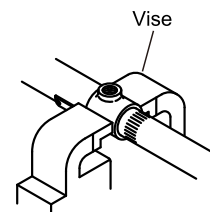

Fig.10
5. Fix the pump body with a vise. (Fig.10)